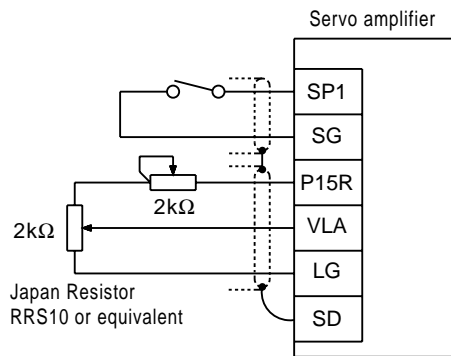

Fig. 3-16 Connection Example
Generally connect as shown in Fig. 3-16. When a precision speed command is required, refer to 3b, (3) in this section.